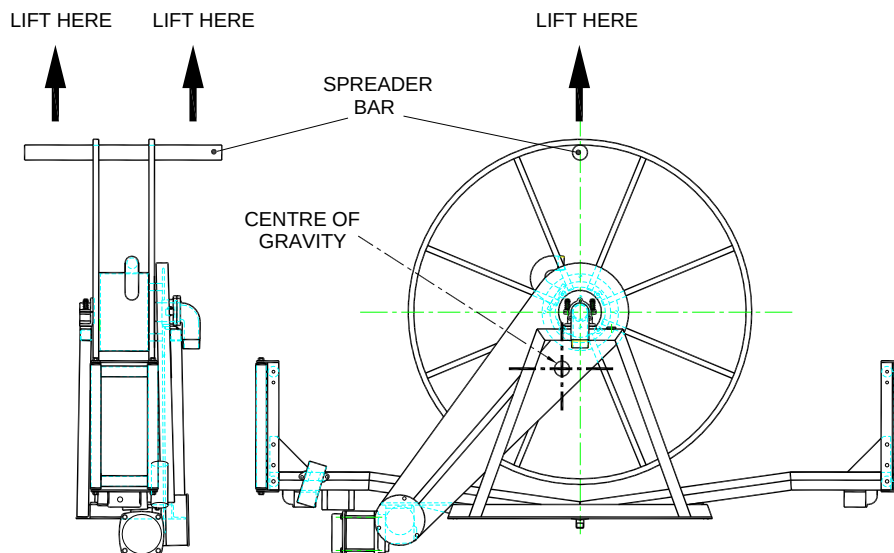

Figure 2 – Lifting with centre of gravity shown
- 3** *Lift the hosereel at the point shown in figure 2 below. It is essential that a spreader bar is used to prevent distortion or damage to the spoked wheels.*